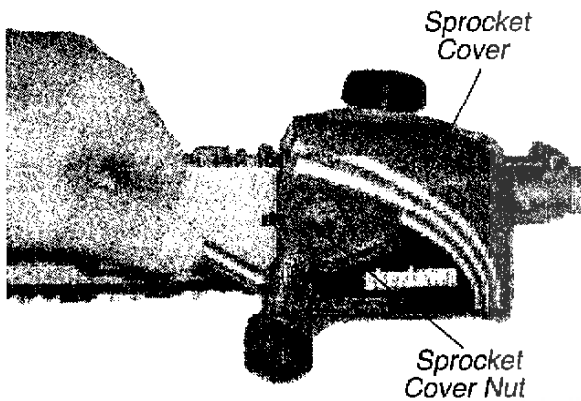

Figure 9
1. Using the small end of the plug wrench, remove the sprocket covernut (turn counterclockwise to remove) and remove the sprocket cover. See Figure 9.